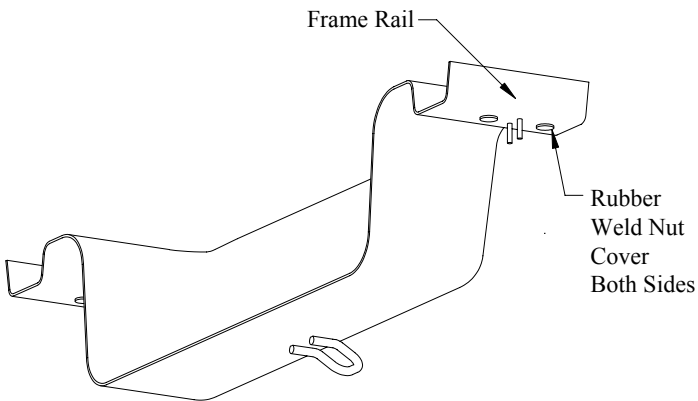

FIGURE 1
①	Qty. (2)	Hex Bolt, M10 x 1.25 x 40mm	④	Qty. (1)	Spacer
②	Qty. (2)	Conical Washer, 7/16"	⑤	Qty. (1)	Conical Washer, 1/2"
③	Qty. (1)	Carriage Bolt, 1/2 x 13 x 2"	⑥	Qty. (1)	Nut
2. Remove and dispose of rear rubber weld nut covers as shown in Figure 1.